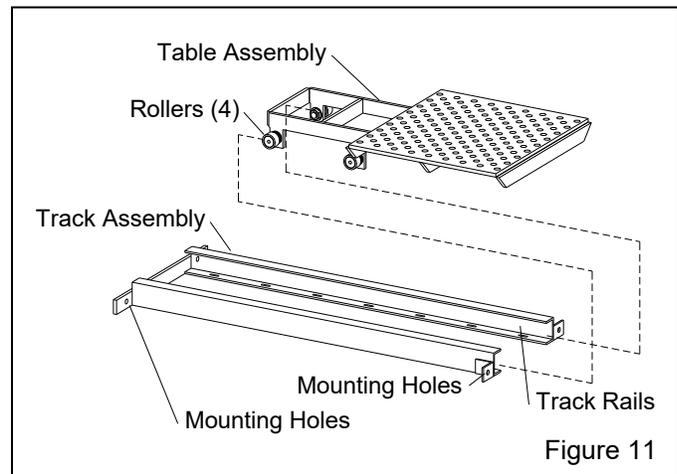

Figure 11
3.5.2 Combine the table assembly and track by sliding the table assembly rollers into the track channels, as shown in Figure 11.